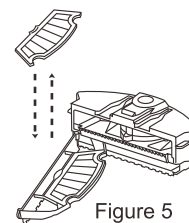

Figure 5
4. Change the new filter, press the semi-circle bracket by one hand to release the fastener from the filter screen, and remove the filter grid by the other hand and then change a new one (Refer Fig 5).